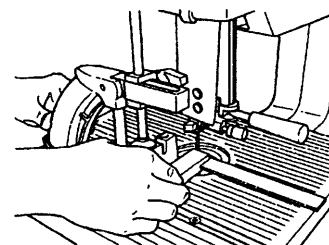

Fig. 10
12. Place a miter gauge in the table slot. Use the precision square to double check if the miter gauge is square to the blade, as seen in Fig 10.